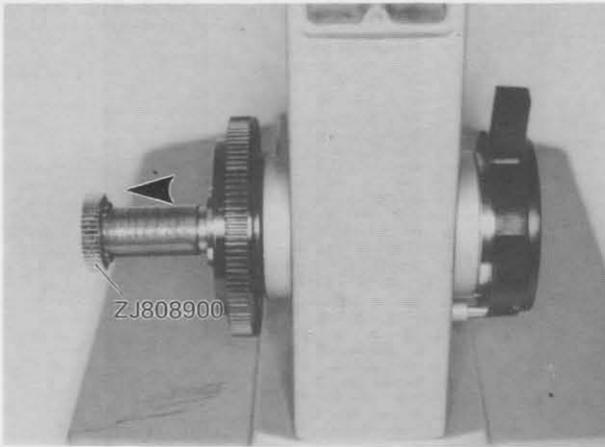

Fig. 3-27
- c) Pull out Pinion ZJ808900 in the direction indicated by arrow. (See Fig. 3-27)